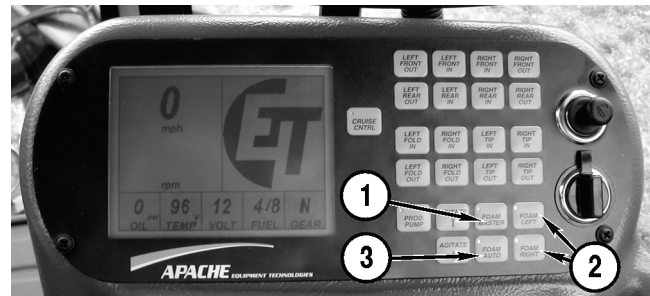

Figure 4-34
To turn on the foam marker, push the foam master button (**Figure 4-34, 1**) on the console.
- Push the foam left button (**Figure 4-34, 2**) to drop foam on the left.
- Push the foam right button (**Figure 4-34, 2**) to drop foam on the right.
To use the Auto Foam feature, turn on the foam master switch (**Figure 4-34, 1**), then turn on the auto foam button (**Figure 4-34, 3**). Foam will drop from whichever side was used last.